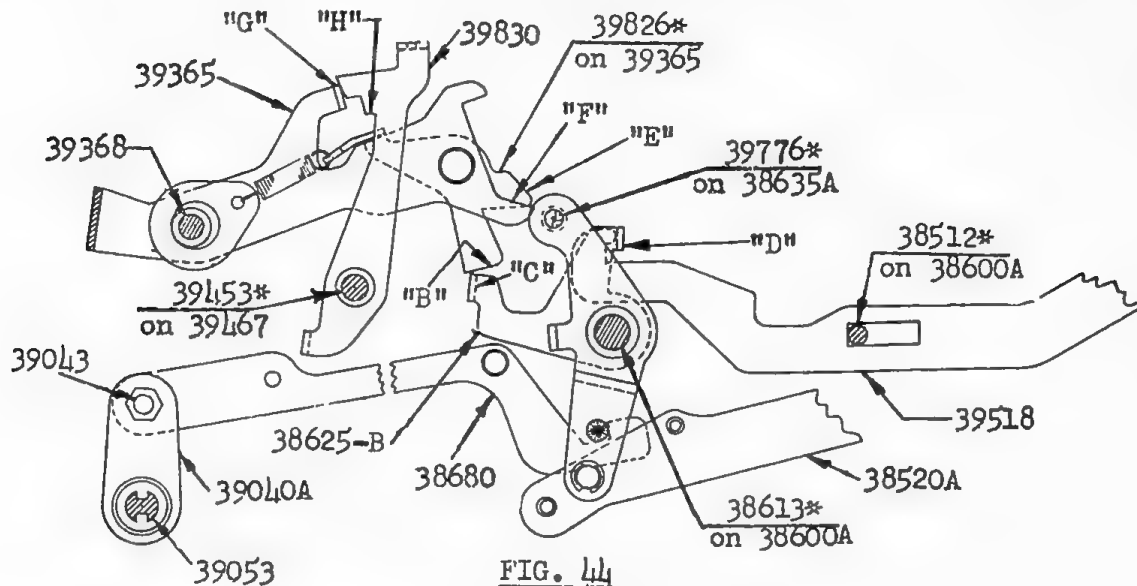

FIG. 44
3. (Fig. 44). The left arm of Bail- 39365 carries a Live Point-39826* similar to the one on the Multiplier Key Bail-39370. (See Section V-Para. A-3 on Pages 1251 & 1252). Surface "B" on 39826* contacts ear "C" on the Equals Starting Lever 38625B, rocking 38625B counter-clockwise. Ear "D" on 38625B pulls the Master
4. (Fig. 44). Stud 39776* on the Starting Lever Release Lever-38635A, which rocks counter-clockwise on the Master Clutch Cycle, contacts surface "E" on the Live Point-39826*